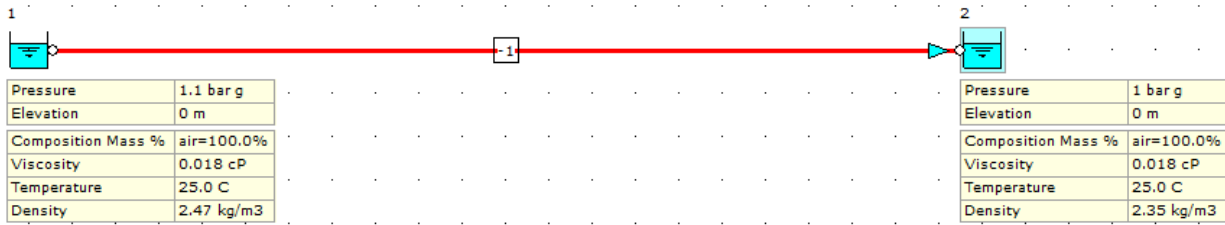

Figure 39: Hydraulic Model with Inlet and Outlet Boundary Properties.
43. The hydraulic model should now look like the screenshot given below (Figure 39).